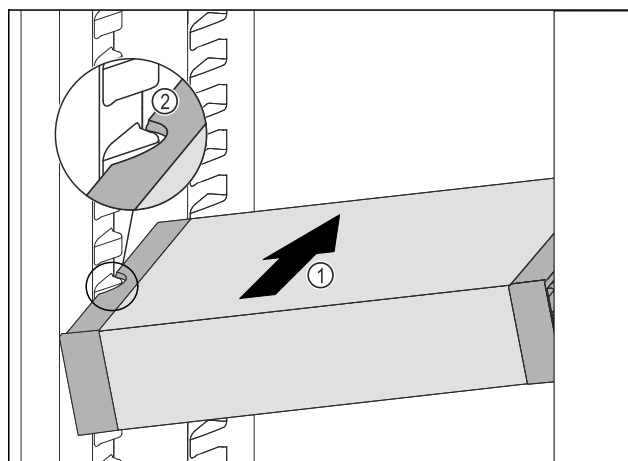

Fig. 100
- Insert the VarioSafe into the refrigerator compartment at an angle *Fig. 100 (1)* until the recesses in the side *Fig. 100 (2)* of the VarioSafe are at the level of the support rib in the refrigerator compartment.